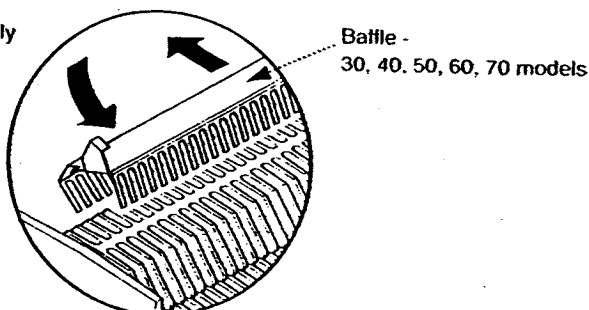

Fig. 97
7. Replace all components in reverse order, (On 30,40,50,60,70 models refit the rear baffle by holding it at an angle and locating the lower fingers between the heat exchanger and rear insulation. Lower it into position as shown) (Fig. 97).